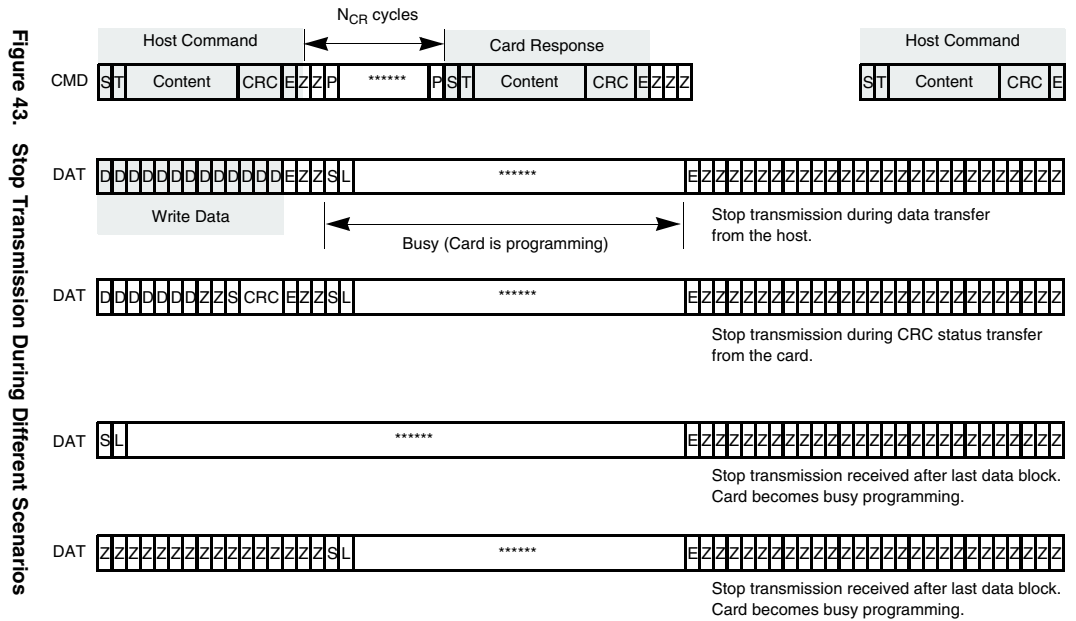

Figure 43. Stop Transmission During Different Scenarios
The card identification and card operation conditions timing are processed in open-drain mode. The card response to the host command starts after exactly  $N_{ID}$  clock cycles. For the card address assignment, SET\_RCA is also processed in the open-drain mode. The minimum delay between the host command and card response is  $N_{CR}$  clock cycles as illustrated in Figure 39. The symbols for Figure 39 through Figure 43 are defined in Table 19.
**Table 19. State Signal Parameters for Figure 39 through Figure 43**
The stop transmission command may occur when the card is in different states. Figure 43 shows the different scenarios on the bus.
**Table 20. Timing Values for Figure 39 through Figure 43**